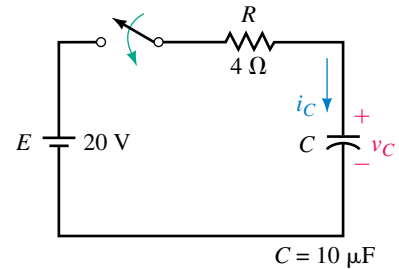

FIGURE 11–51
- The switch of Figure 11–51 is closed at $t = 0$ s. The capacitor is initially uncharged.